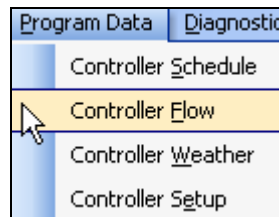

Figure 16.3.1C
1. In the toolbar at the top of the screen select **Program Data** then scroll down to **Controller Flow** and click on it (Figure 16.3.1C).